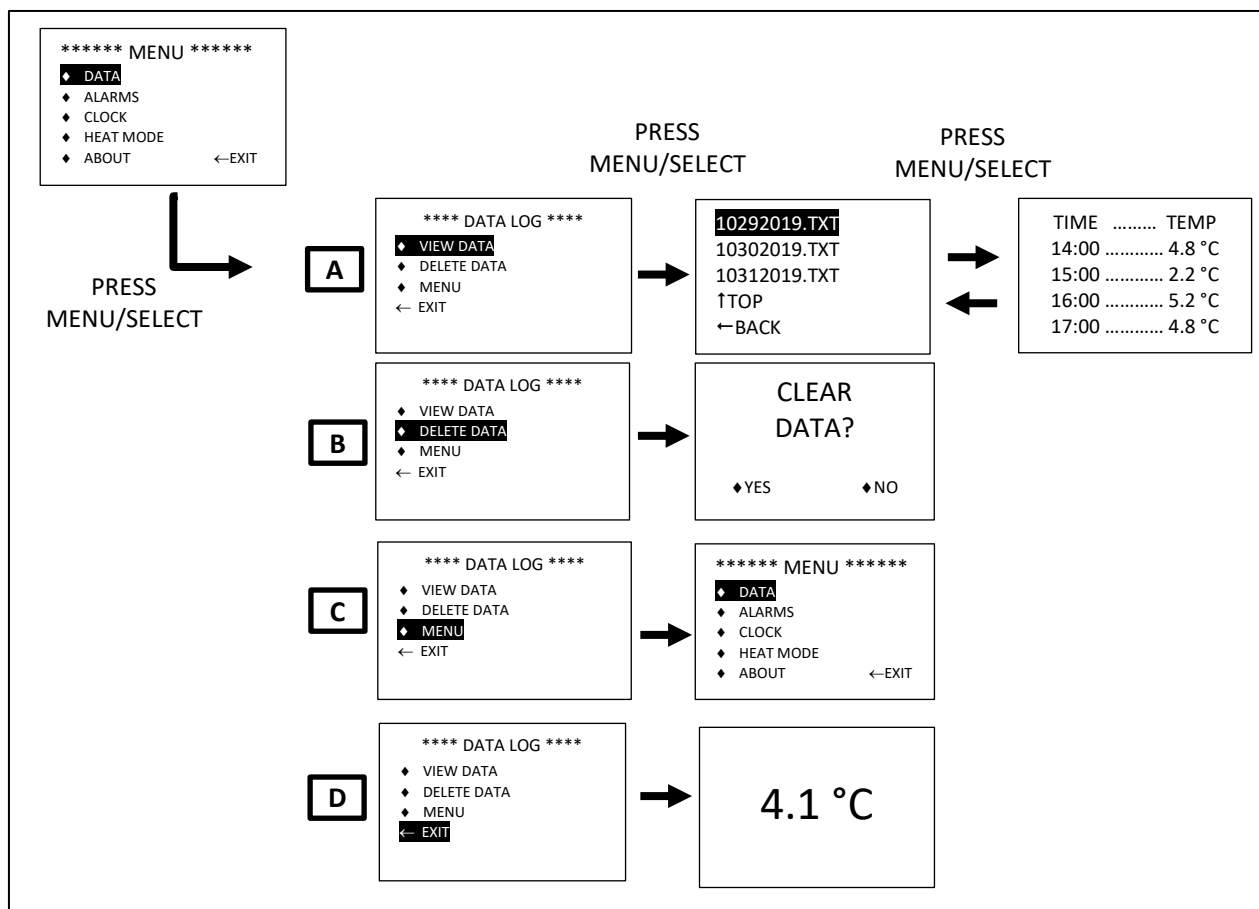

Figure 15: xFridge Data Log Menu
To access the DATA LOG, press MENU/SELECT button and use the ▲ and ▼ to highlight “DATA” then press MENU/SELECT again. This will bring up a menu with the ability to VIEW or DELETE Data Logging Files as shown in Figure 15. More information on Data Logging files can be found in Section 2.3.1.
- To VIEW files, use the ▲ and ▼ buttons to highlight “VIEW DATA” and press MENU/SELECT button (Refer to Figure 15 Row A). Use the ▲ and ▼ buttons to highlight desired file and press MENU/SELECT. This will open the data log for that date. Use ▲ and ▼ to scroll through the data log or press MENU/SELECT again to return to the file list. Highlight and MENU/SELECT “TOP” to jump to the first file or “BACK” to return to the DATA LOG menu.
- To DELETE files, use the ▲ and ▼ buttons to highlight “DELETE DATA” on the DATA LOG menu and press MENU/SELECT button (Refer to Figure 15 Row B). This will navigate to a screen for the user to confirm the selection. Press the MENU/SELECT button to confirm and DELETE all data files. Press the ▼ button to return back to the DATA LOG menu.
- To return to the MENU, use the ▲ and ▼ buttons to highlight “MENU” and press MENU/SELECT (Refer to Figure 15 Row C).
- To return to Temperature Display Mode, use the ▲ and ▼ buttons to highlight “EXIT” and press MENU/SELECT (Refer to Figure 15 Row D).